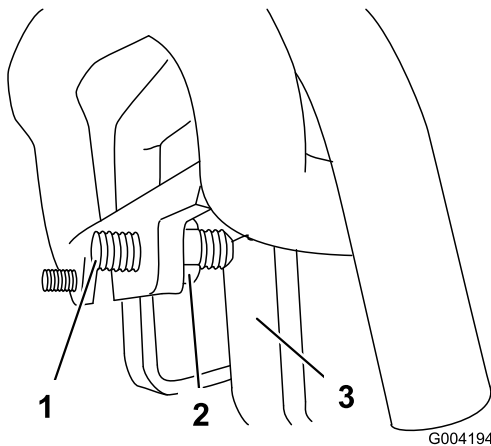

Figure 64
3. If the traction unit veers to the **left**, loosen the **right** jam nut and adjust the tracking set screw on the front of the traction control (Figure 64).
4. If the traction unit veers to the **right**, loosen the **left** jam nut and adjust the tracking set screw on the front of the traction control (Figure 64).